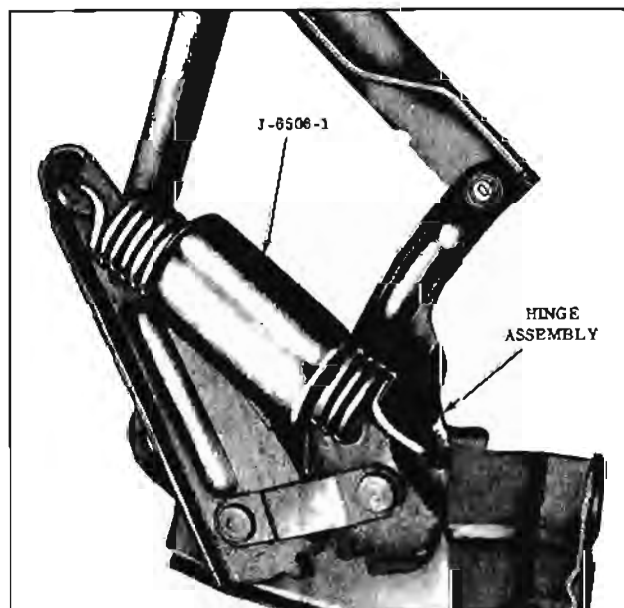

Fig. 12-7 Hinge Spring Tool in Position
1. Raise hood just enough to place Tool J-6506-1 over the spring. (Fig. 12-7)